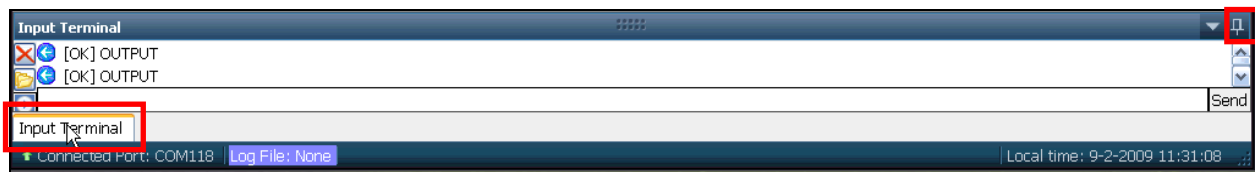

Figure 7: Cursor on Tab Opens Hidden Window
2. Roll over the tab in the lower left corner of the GUI to open the hidden window (see Figure 7).